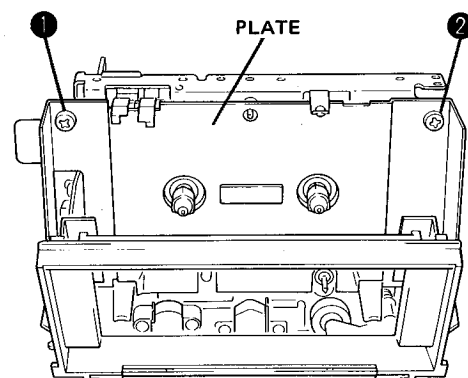

Fig. 8
3. Remove the screws 1 and 2 in Fig. 8 and then remove the plate.